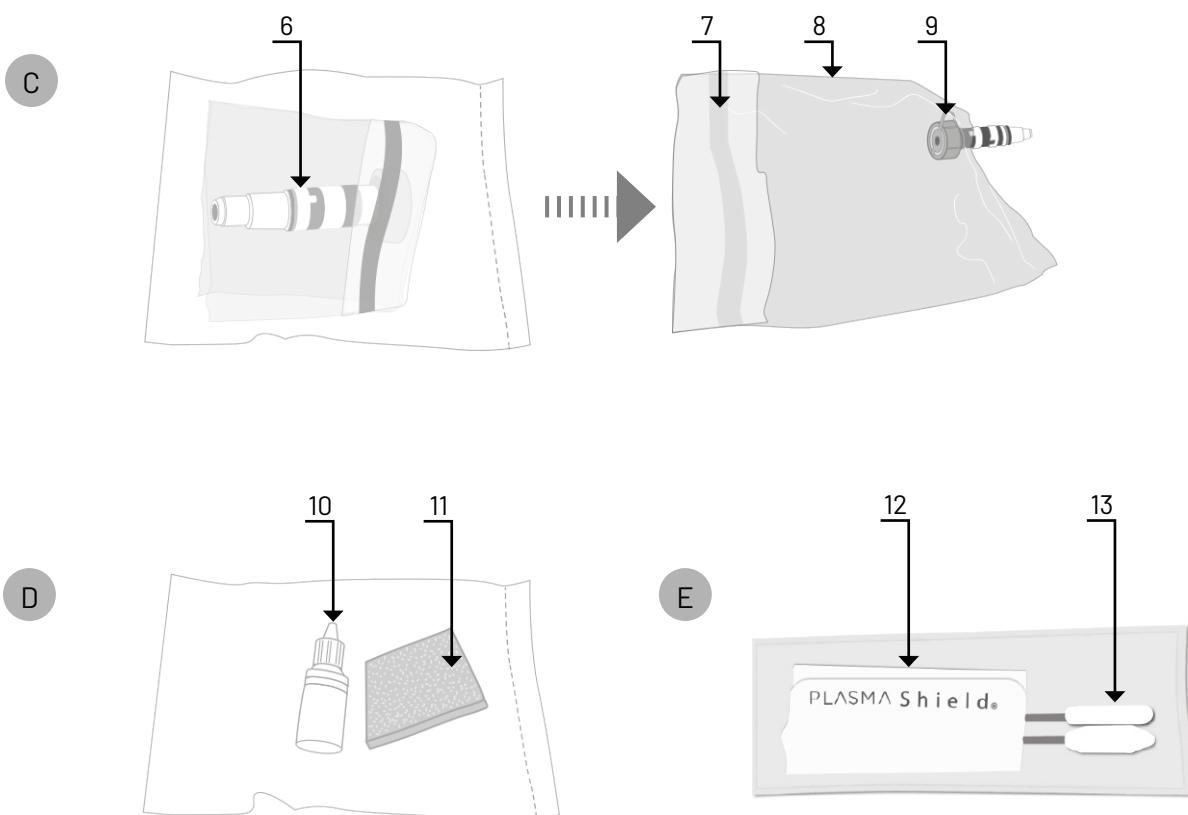

Fig. 3
For 10 mm scopes, remove the 5 mm Scope Adapter from the Disposable. For 5 mm scopes, use the Adapter (see Fig. 3, C-9).
3. Cover the Base completely by removing the Drape Adhesive Tape (see Fig. 3, C-7) liner and taping the Drape closed.
5. Open the Anti-Fog Solution and Sponge pouch (see Fig. 3, D) in the sterile zone. Remove the adhesive tape liner and stick the Sponge onto the Base Drape above the Disposable, making sure not to cover the Display Screen with the Sponge.
6. In case there is a need for reactivation during surgery, first wipe the scope with the cleaning cloth and/or swabs (see Fig. 3, E-12 / 13) and then perform the lens activation.